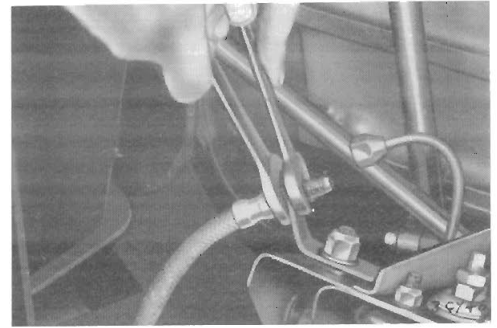
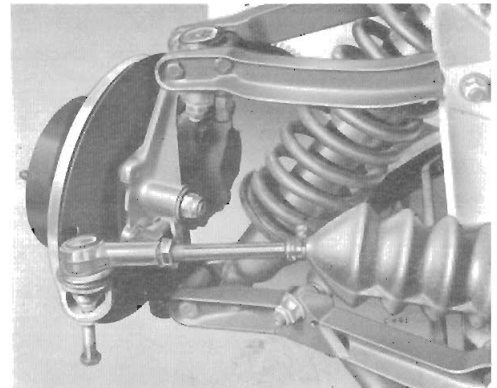

Fig. 3.
Fig. 4.
6. Remove the nyloc nut, plain washer, and using an extractor (Fig. 3), detach the tie rod end from the steering arm.
7. Note the number and position of shims (31) between the chassis frame and front and rear lower wishbone fulcrum brackets (32). Remove the nyloc nut (29) and washer (30) securing each fulcrum bracket to the chassis.
8. Remove 4 bolts (1) Fig. 4, spring and plain washers and tapping plates from the outer face of the sub-frame and one bolt (2), spring and plain washer securing the inner end of the sub-frame to the chassis frame.